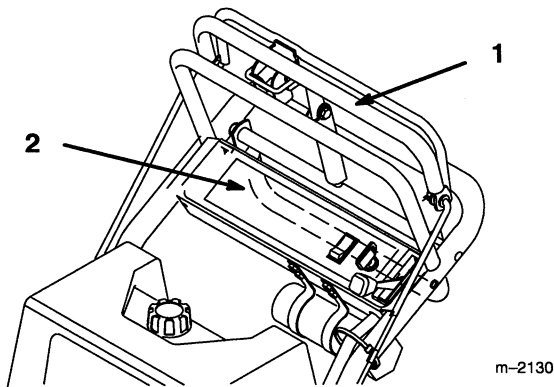

Figure 14
3. Slowly press on the upper control bar to move forward (Fig. 14).
To go straight, apply equal pressure to both ends of the upper control bar (Fig. 14).
To turn, release pressure on the upper control bar side away from the direction you want to turn (Fig. 14).
3. Slowly pull on the lower control bar to move rearward (Fig. 14).